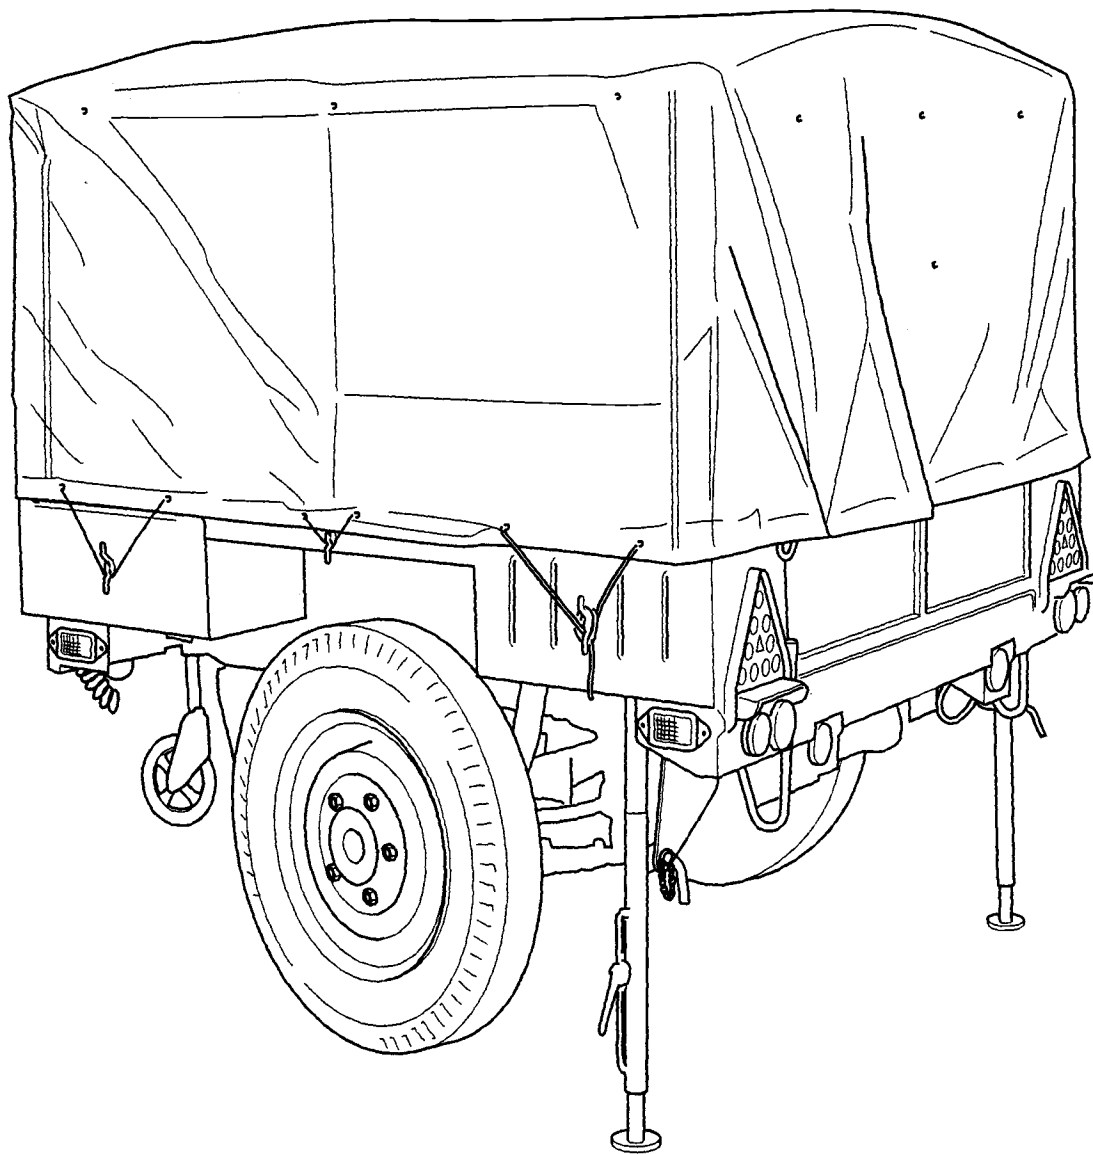

Fig 1 Equipment on a suitable base
2 Select a firm level base, lower the jockey wheel and rear support legs so that their base plates contact the ground and the equipment is level and secure as shown in Fig 1. Tighten the base plate clamps.
- 11 After unloading as detailed in Paras 1 to 9 and shown in Figs 1 to 8 the trailer body should be examined for any visible damage.